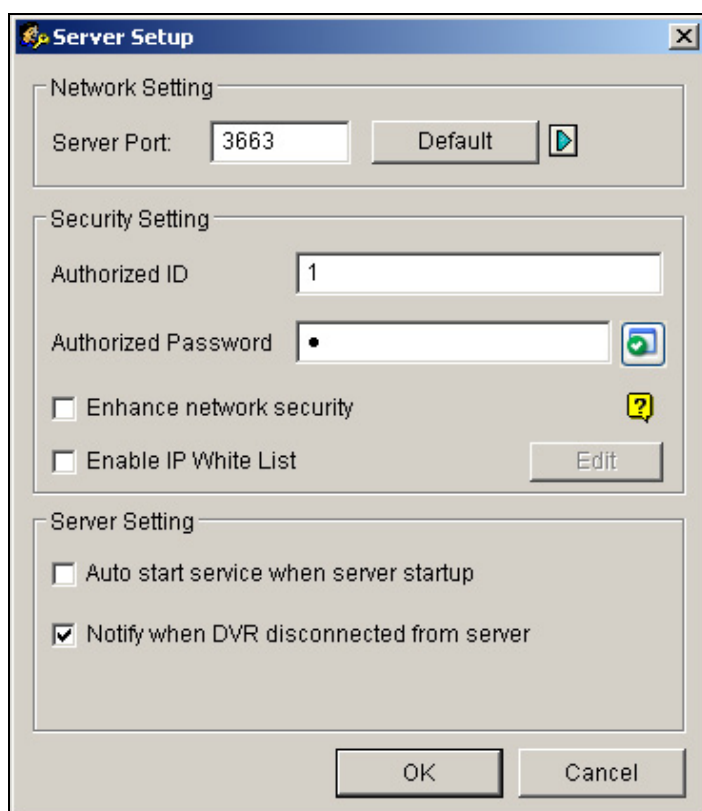
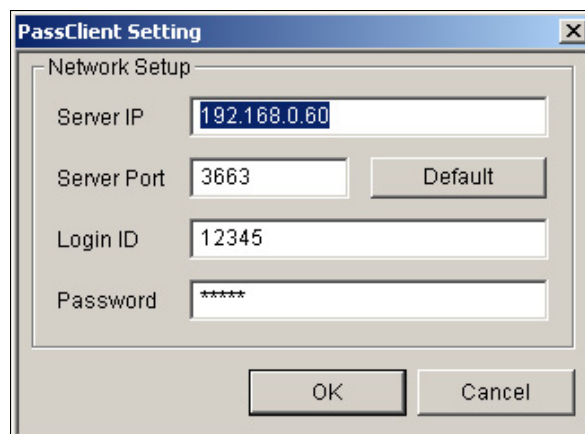

Figure 11-29 Server Setup
Figure 11-31 PassClient Setting
1. The valid ID and password created in the Authentication Server (see Figure 11-29) don't match those in the GV-System (see Figure 11-31).